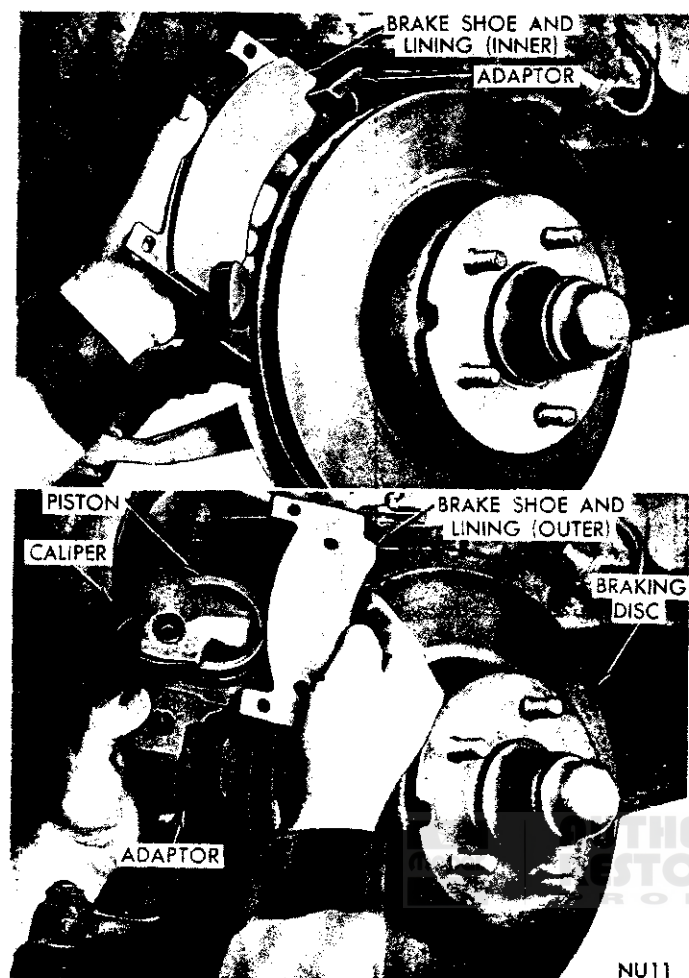

Fig. 8—Removing or Installing Brake Shoes and Lining
(5) Slide outboard shoe and lining assembly out of caliper. Slide inboard shoe and lining assembly out of adaptor (Fig. 8).
(3) Slide new shoe and lining assemblies into position in adaptor and caliper (Fig. 8), being sure that metal portion of shoe is fully in recess of caliper and adaptor.